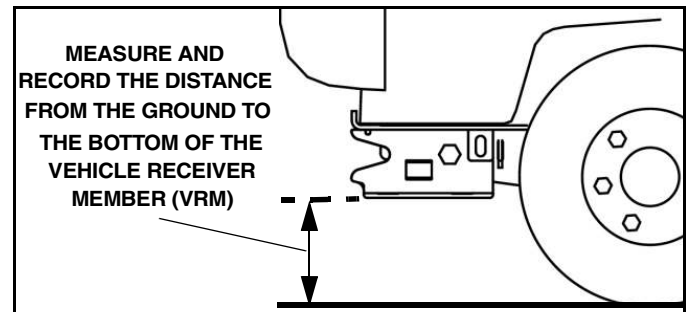

Figure 1-9
8. With the truck parked on a flat level surface, measure and record the distance from the ground to the bottom of the Vehicle Receiver Member (VRM). (See Figure 1-9).